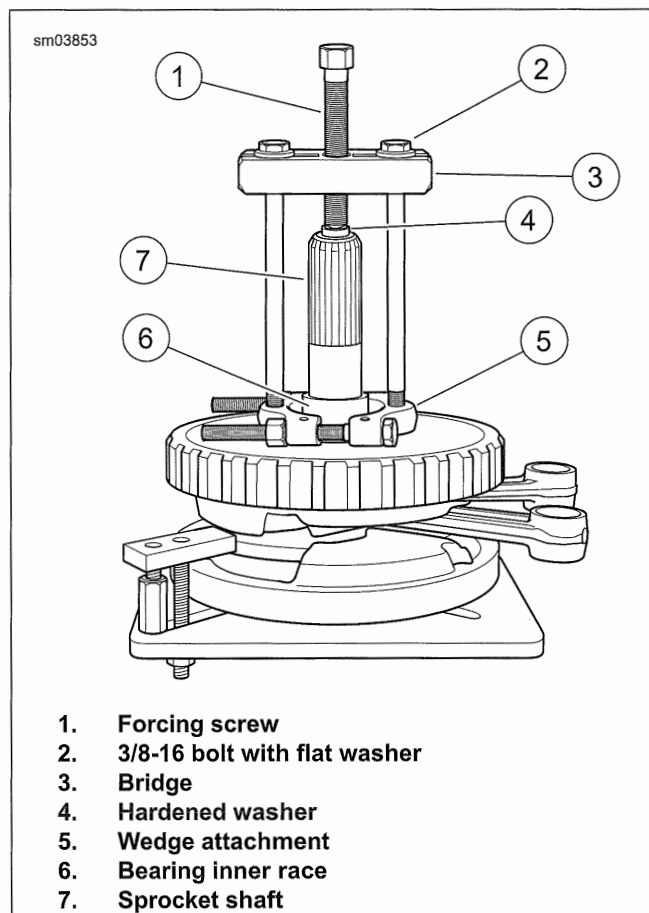

Figure 4-72. Remove Inner Race from Sprocket Shaft
2. See Figure 4-72. Install pulling tool.
- a. Position WEDGE ATTACHMENT (PART NUMBER: HD-95637-46B) (5) on inboard side of thrust washer.
4. See Figure 4-72. Remove bearing race.